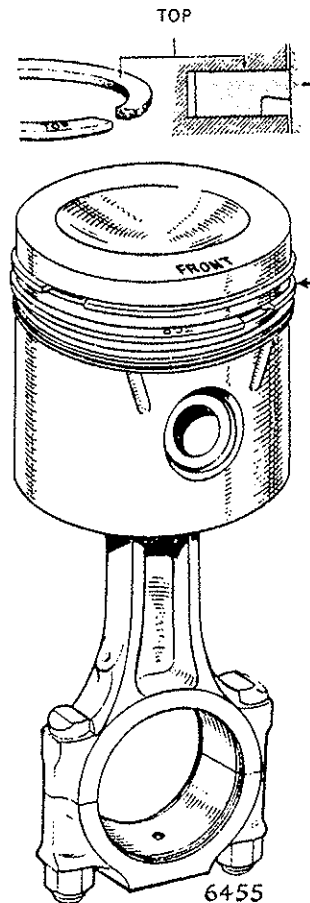

Fig. B.7. Piston correctly assembled to connecting rod
4. The correct assembly of the piston on the connecting rod is shown in Fig. B.7.